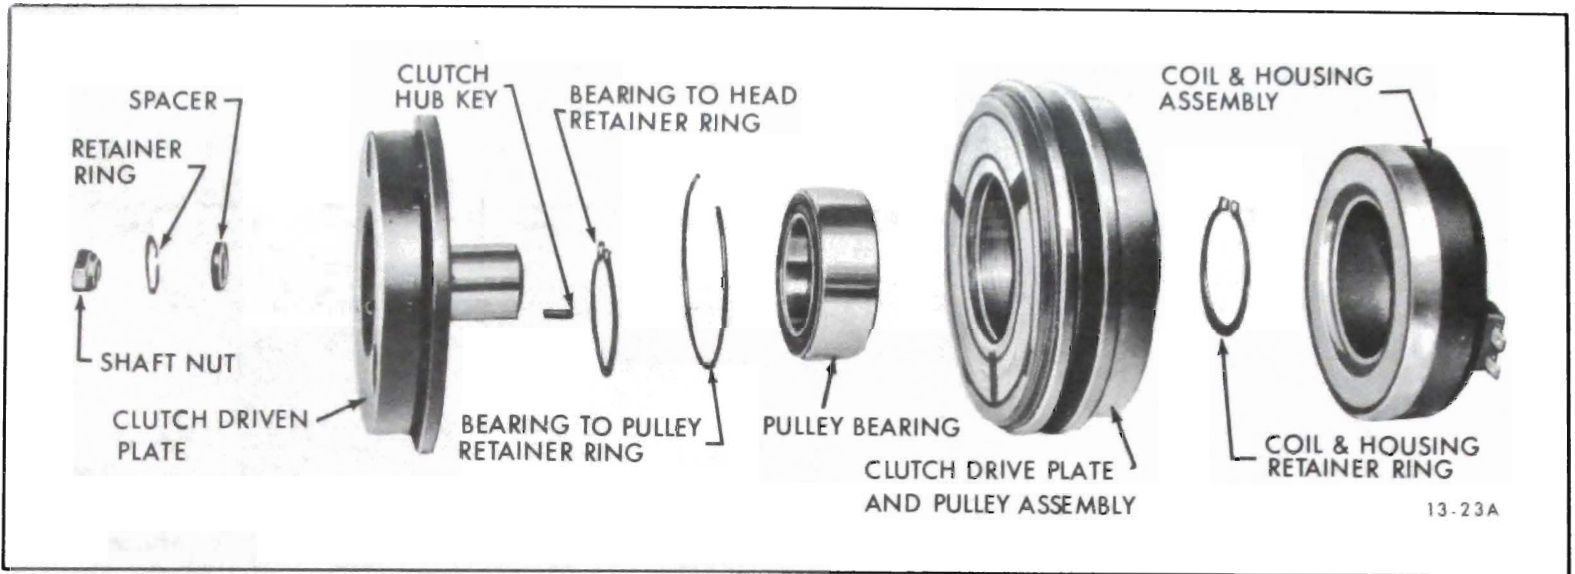

Figure 13-34 Magnetic Clutch and Pulley Assembly
12. Magnetic Clutch and Pulley Assembly - The magnetic clutch and pulley assembly (see Figure 13-34) together transmit power from the engine crankshaft to the compressor. The magnetic clutch is actuated when the air conditioning clutch compressor switch and the fan switch located on the instrument panel control assembly are closed. When the switches are closed, the coil sets up a magnetic field and attracts the armature plate (movable element of the clutch driven plate). The armature plate portion of the clutch driven plate moves forward and contacts the friction surface of the pulley assembly, thereby mechanically linking the compressor to the engine. The compressor will operate continuously whenever the air conditioner clutch compressor